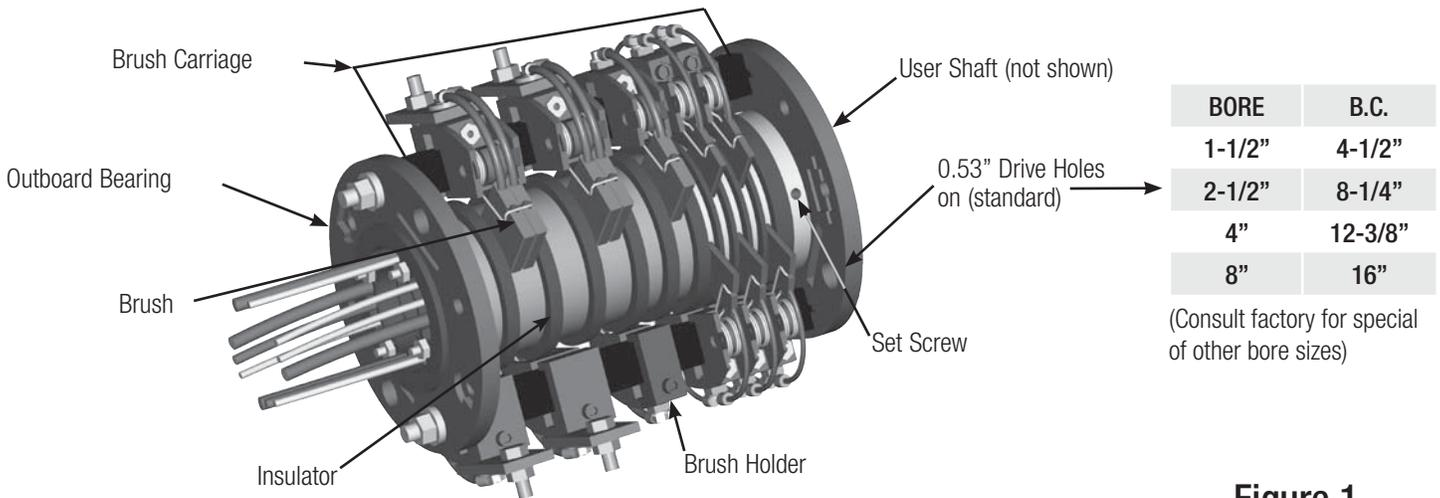

Figure 1
2.3.1.2 Unenclosed slip ring assemblies are made up of two basic components, the brush carriage and the core. The brush carriage is made up of the brush posts, brushes, brush holders, and outboard bearings. The core is made up of the rings, insulators, drive collar, ball or friction type bearings, and leads extending from the end on the outside of the through bore. (*See figure 1*)